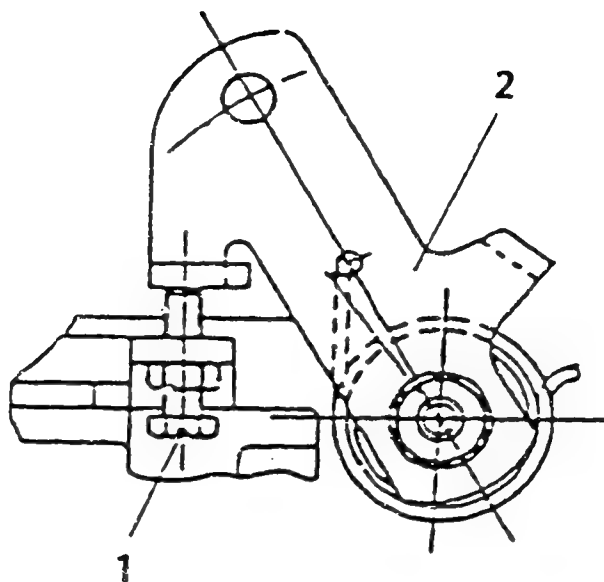

Fig. 30
Adjust the starting injection quantity (item 1-5) using the adjusting bolt (Fig. 30).